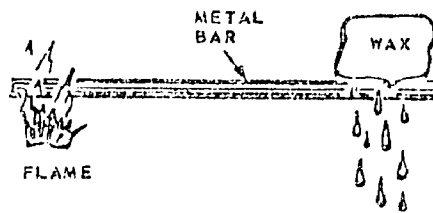

Fig. 1
44. Refer to figure 1 below. The transmission of heat from one molecule to another within a given material or from one material to another when they are held in direct contact is called: